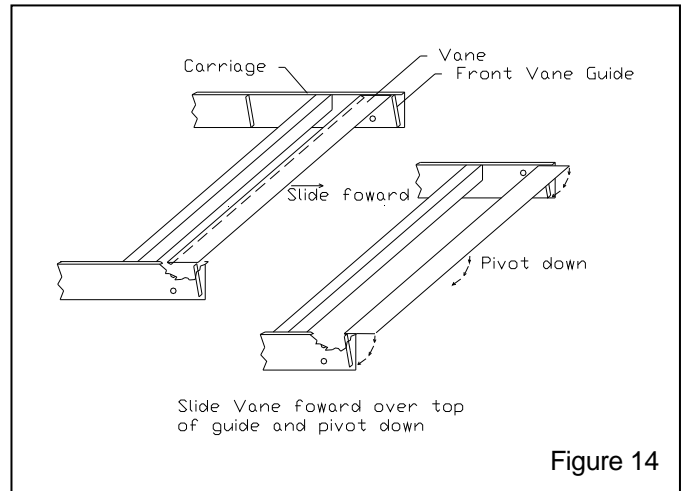

Figure 14
2.7.2.3 Install only the front vane on each carriage section as shown in Figure 14. If the front vane is not put in before the carriages are spliced together, it will be necessary to remove some of the splice bolts to install them. The vane slides in from the back and rests on the guide.